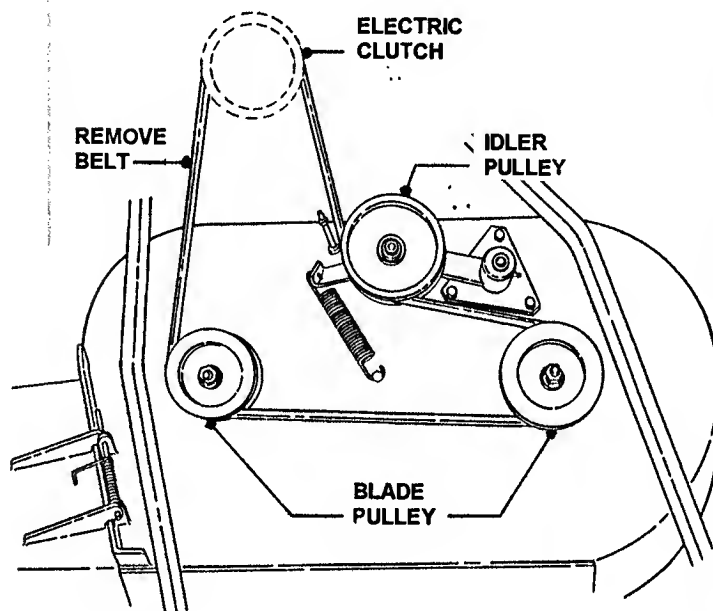

FIGURE 33
2. Route new belt around spindle pulleys. See Figure 33.